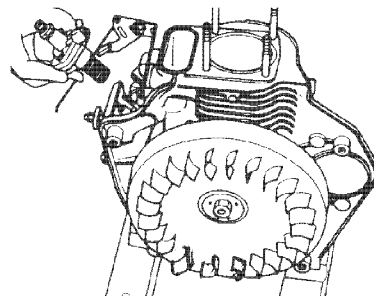

Figure 6-39
18. Remove the fuel injection pump (**Figure 6-39**). See *Removal of Fuel Injection Pump* on page 7-16.